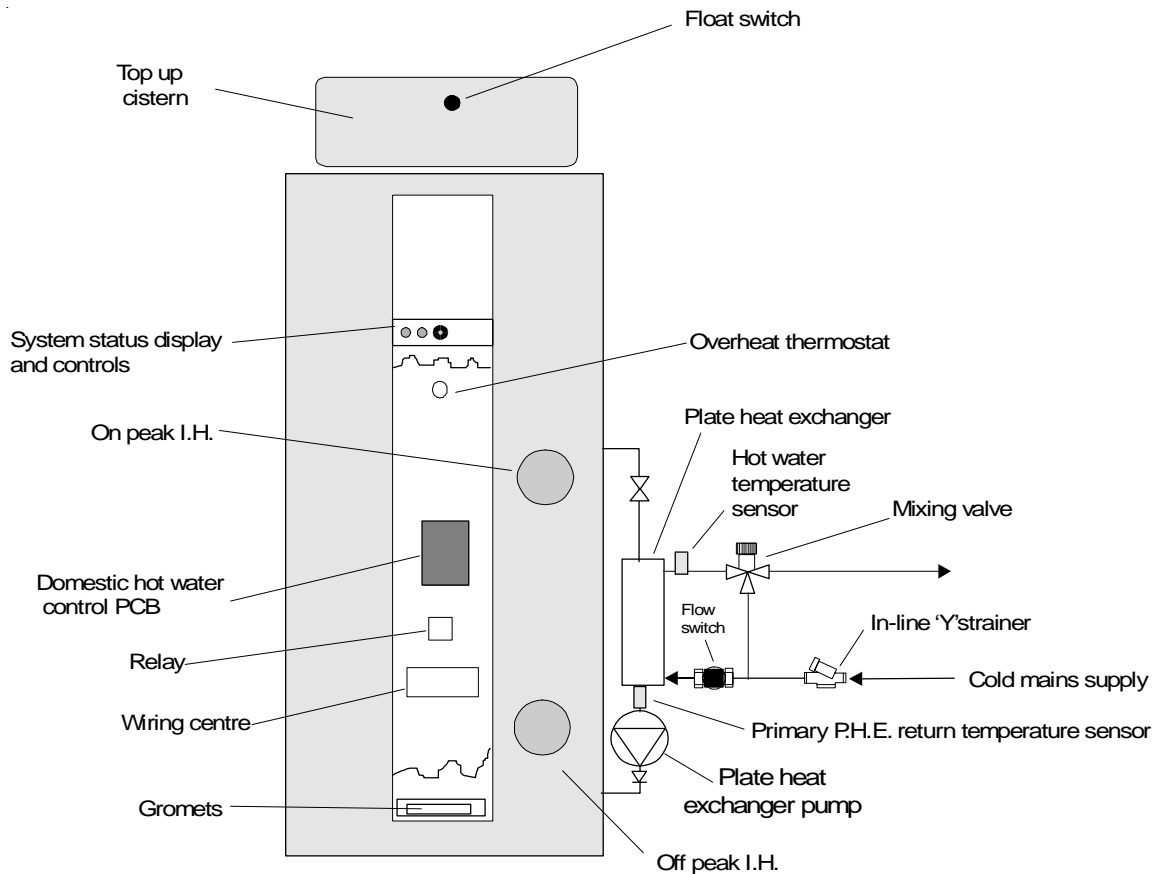

Figure 1.2 Standard PulsaCoil III Package
The standard configuration of the PulsaCoil III is shown in Figure 1.2. It is supplied as a complete factory made and tested appliance fitted with all the following items of equipment :-
a) The appliance is supplied with the components on the right hand side (as shown in Figure 1.2) as standard but can be supplied left handed.